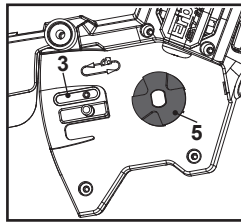

Fig. 20
1. Disassemble the guide bar (16) and saw chain (15) in reversed order from assembly.
2. Check the oiling port (3) for clogging and clean if necessary to ensure proper lubrication of the guide bar and saw chain during operation. Use a soft wire small enough to insert into the oil discharge hole (Fig. 20).